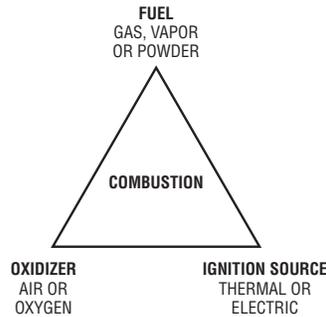

Figure 1. The ignition triangle
Simply put, in a hazardous environment, the designer's task is to prevent an ignition source from meeting an explosive atmosphere. There are several techniques for achieving this end, and this article focuses on a design discipline referred to as intrinsically safe (IS) design. Figure 1 depicts the ignition triangle, illustrating that a fuel, an oxidizer and an ignition source must all be present for an explosion to occur. Several techniques simply prevent an existing ignition source from contacting an explosive atmosphere, while Intrinsically Safe design actually eliminates the ignition source. The principal protection techniques are listed in Table 1.